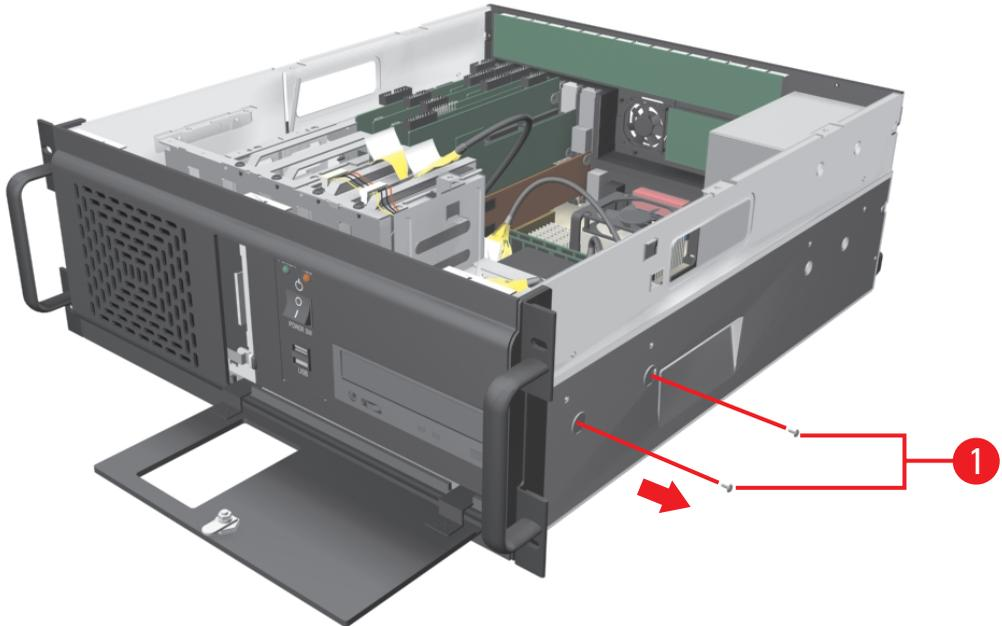

Figure 9. Removing CD/DVD Mounting Screws
1. Using a Phillips-head screwdriver, unfasten the two screws that attach the CD/DVD to the chassis. Refer to Figure 9.